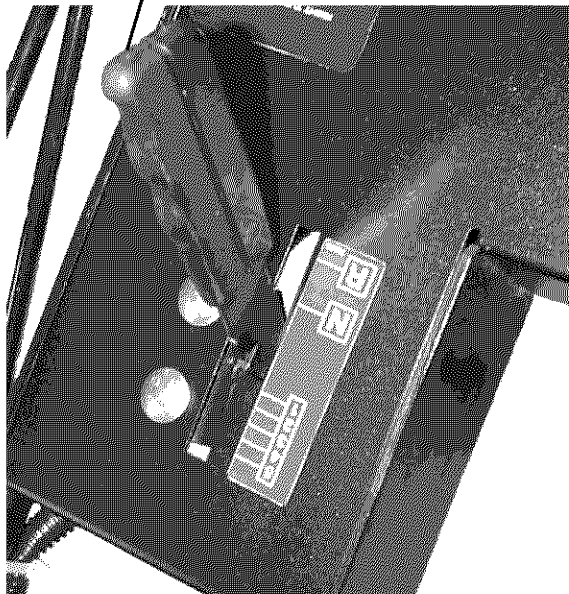

FIGURE 3.3
3. Place Transmission Shift Lever in **NEUTRAL (N)** position. See Figure 3.3
9. Place Transmission Shift Lever in No. 1 position (first gear). See Figure 3.3.